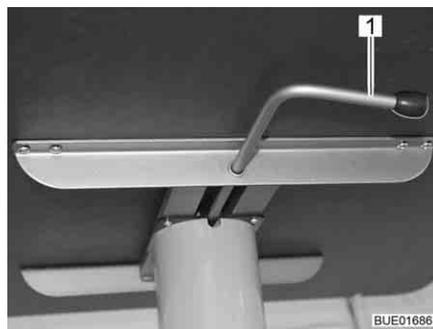

Fig. 81 Lift-off table
- Swivel the catch lever (Fig. 81,1) to the left. The lock of the lifting mechanism is open.
- Swivel the catch lever (Fig. 81,1) to the right (Fig. 81). The lifting mechanism is locked.
- Swivel the catch lever (Fig. 81,1) to the left. The lock of the lifting mechanism is open. The table-top moves upwards to the limit stop.
- Swivel the catch lever to the right (Fig. 81). The lifting mechanism is locked.